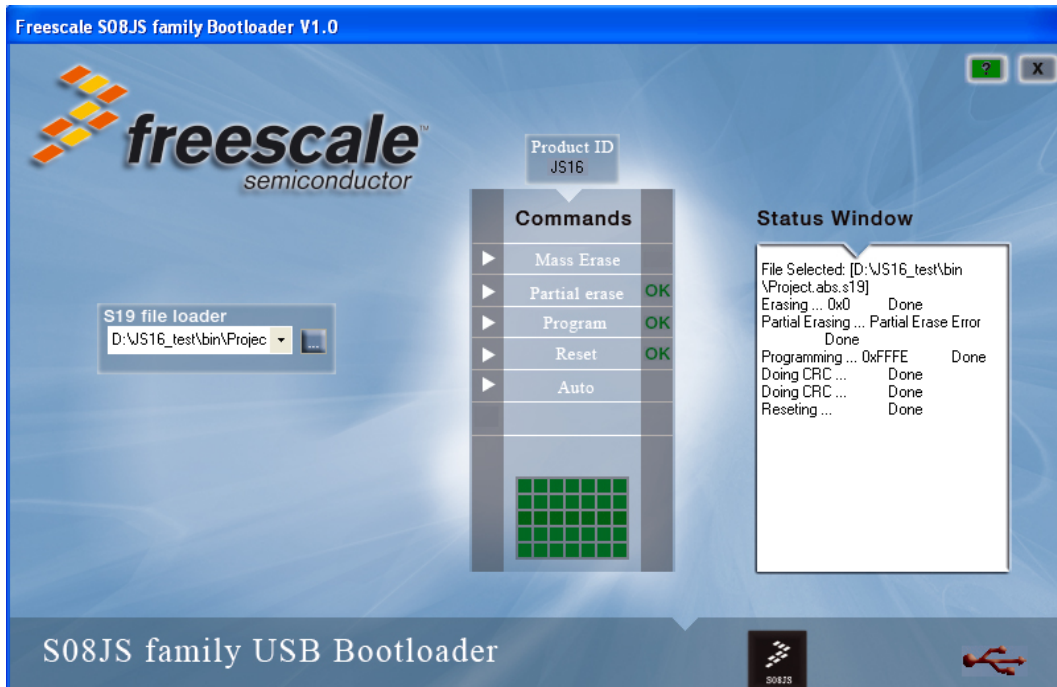

Figure 19. Execute Auto Command
1. Obey the same procedure in steps 1, 2, and 3 in Section 4.2.1, “Update the JS16 Firmware Step by Step Click the Auto button to execute the partial erase, program, and reset commands. The update process is executed automatically (Figure 19).